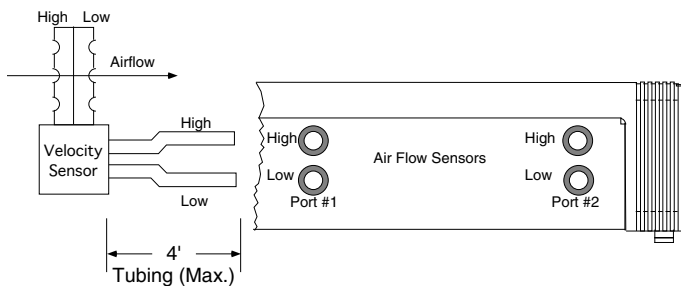

Figure 3. Velocity Sensor Connections
1. Connect the low-pressure side of the velocity sensor to the barbed fitting labeled Low on the MR-VAV-X2 (see Figure 3).